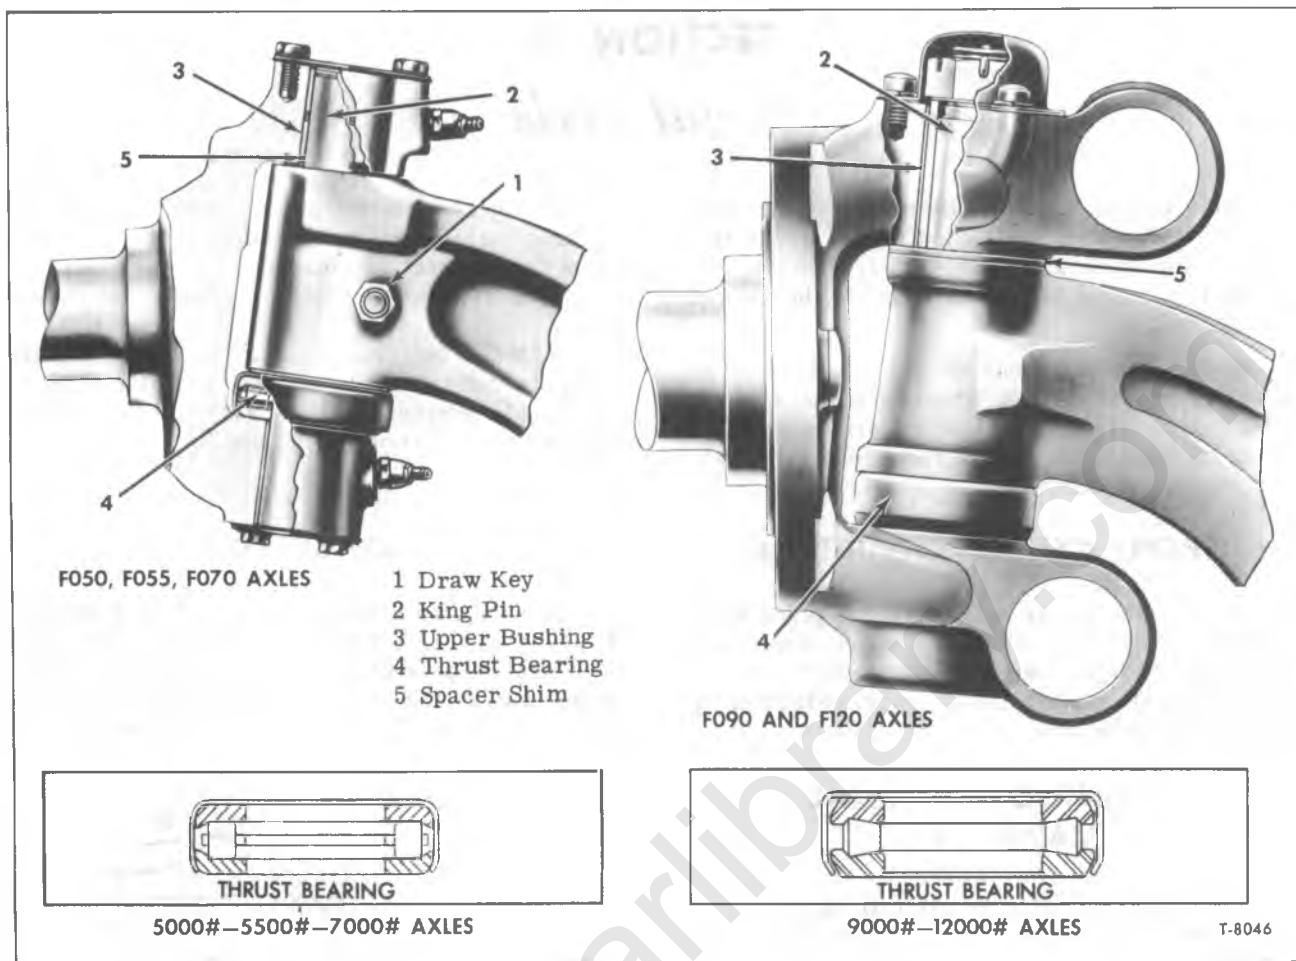

Figure 2—Steering Knuckle and Thrust Bearing
5. On F-050, F-055 and F-070 axles (fig. 2), inspect and tighten kingpin draw key nuts. Loose draw keys will permit kingpin to turn in axle center, thus enlarging kingpin hole. If hole becomes too greatly enlarged, replacement of axle center may be necessary. If draw key holes become enlarged beyond use of new key, replace axle center.